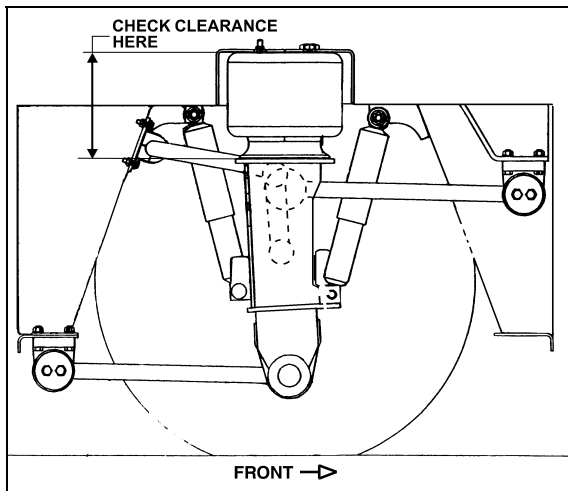

FIGURE 51: TYPICAL AIR SPRING CLEARANCE, FRONT I-BEAM AXLE
1. With the vehicle at normal operating air pressure, check the air spring clearance as illustrated in figure 51. This clearance should be $12 \pm \frac{1}{4}$ " (305 ± 6 mm) for the front I-beam axle air springs, $12 \frac{15}{16} \pm \frac{1}{4}$ in (328 ± 6 mm) for the Independent Front Suspension air springs and $11 \frac{1}{2} \pm \frac{1}{4}$ " (292 ± 6 mm) for those on the drive axle.